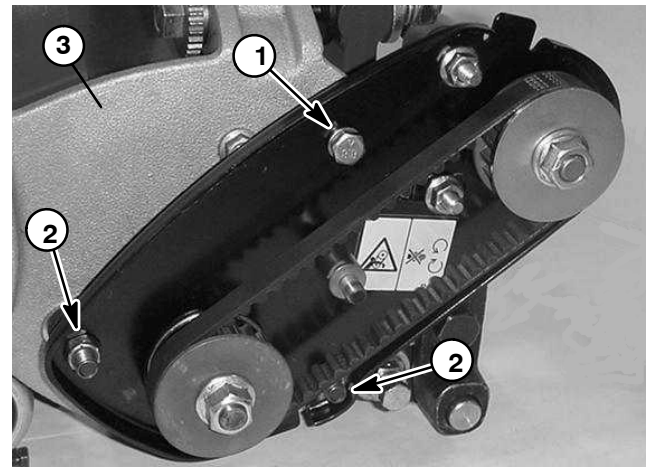

Figure 40
5. Loosen and remove two locknuts, cap screw and lockwasher that secure reel drive plate assembly to side of cutting unit (Fig. 40). Pull assembly from mower. Remove spacer from behind reel drive plate.